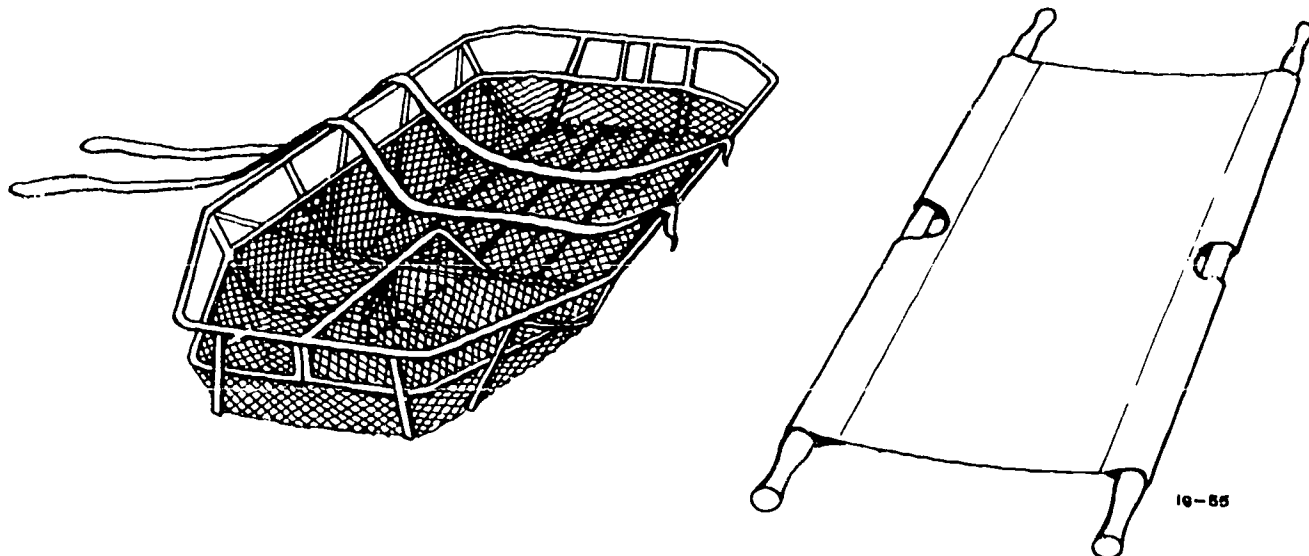

Figure 1-7. Standard litters.
**Standard litter.** A standard litter consists of a frame, a cover, and accessories, such as poles, legs, and securing straps. Generally, such litters as those shown in figure 1-7 are readily available and suited for moving any victim. When a standard litter is available, use it. In situations where no litter is available, you must construct one.